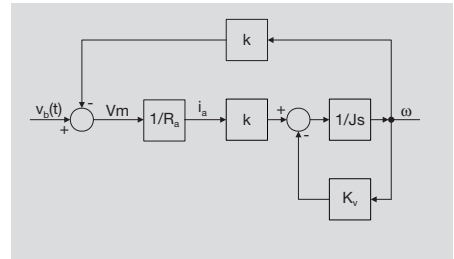

**Figure A.7 Simplified Motor Control Block Diagram**
The system block diagram corresponding to Equation (28) - Equation (29) is in Figure A.7.